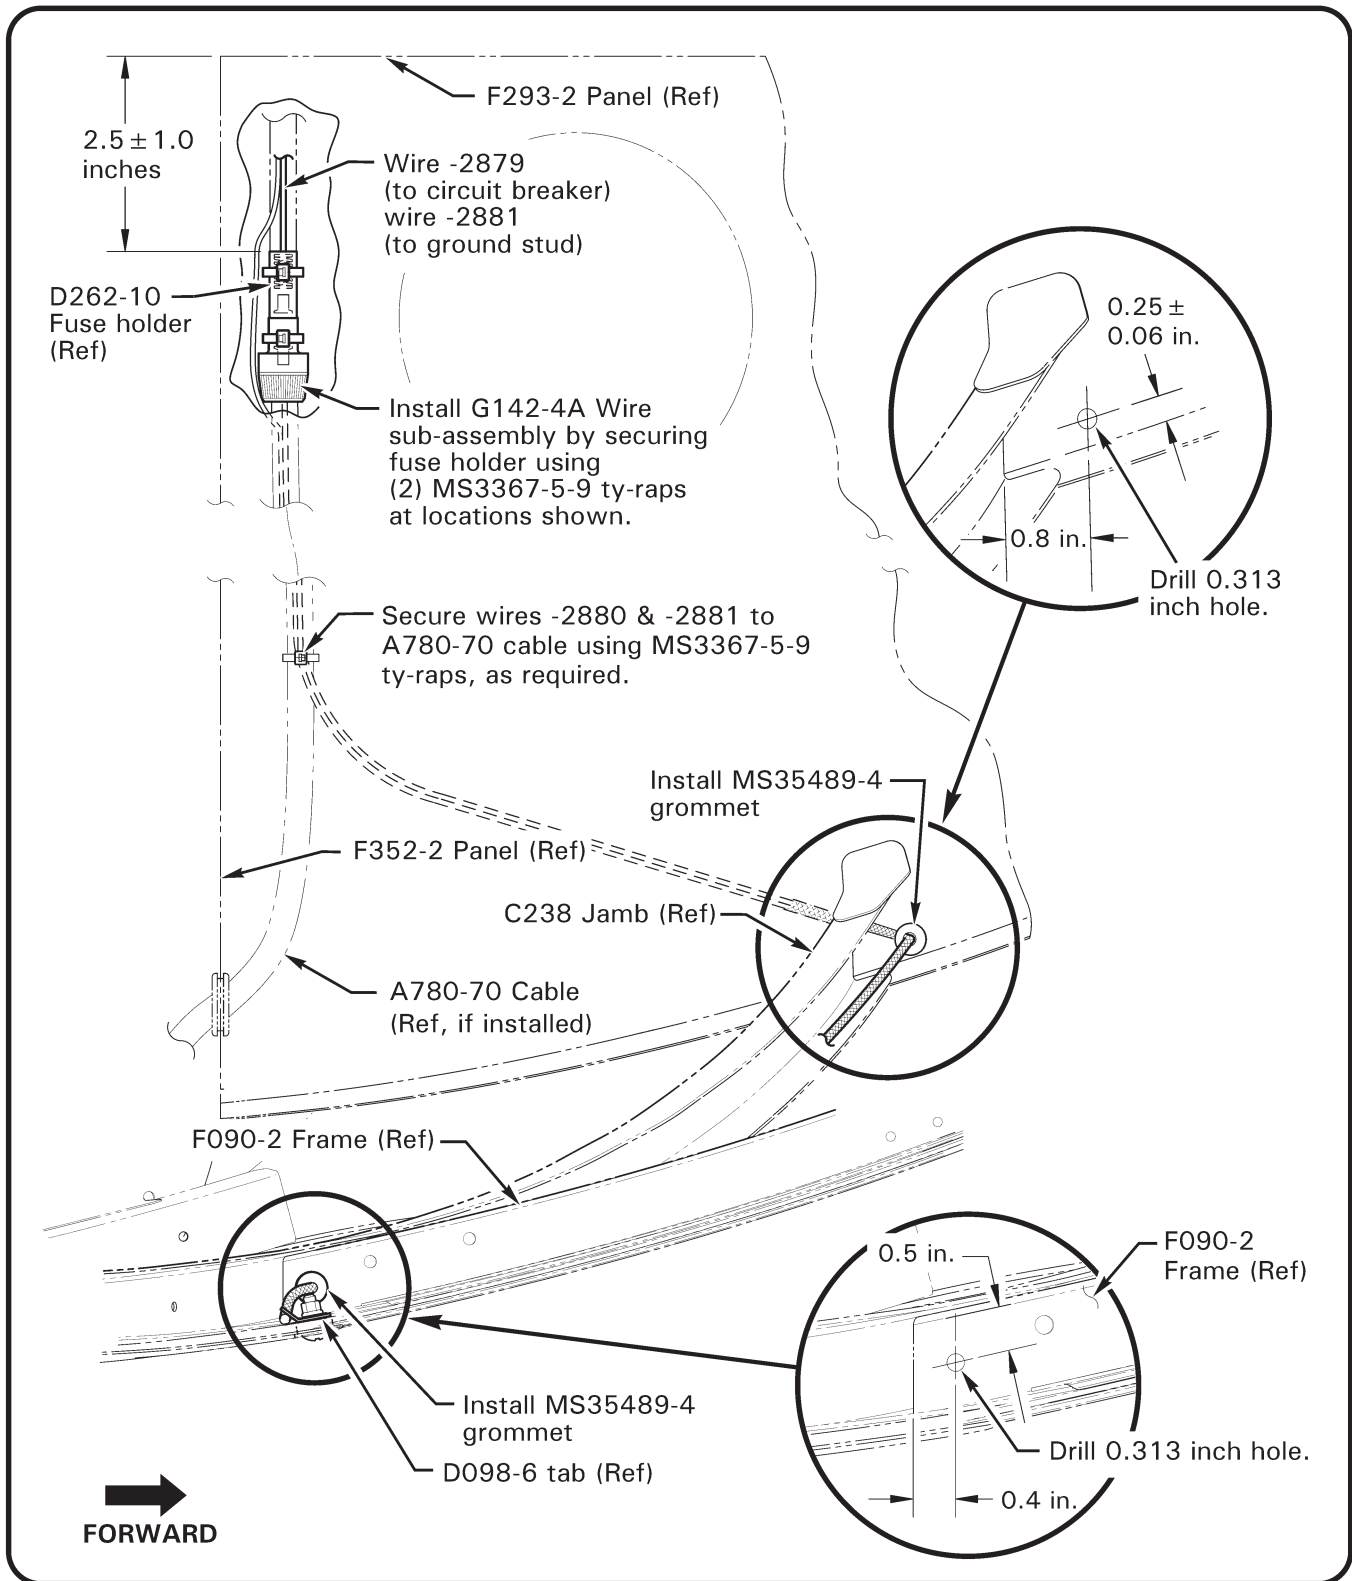

FIGURE 2
8. Refer to Figure 2. Locate and drill 0.313-inch (5/16-inch) hole thru F090-2 frame (ref. IPC Figure 52-17), and 0.313-inch hole thru floor. Deburr holes and clean up debris. Install MS35489-4 grommet in each hole.
9. Position G142-4A wire sub-assembly at location shown, ensuring wire -2879 is routed towards F293-2 panel. Secure D262-10 fuse holder to A780-70 cable using (2) MS3367-5-9 ty-raps. Cinch ty-raps until snug without overtightening and trim tips flush with heads.
12. Refer to Figure 2. Route wire -2881 past D262-10 fuse holder and adjacent wire -2880 (from fuse holder) outboard and forward, up through MS35489-4 grommet in floor. Secure wires to A780-70 cable (if installed) using MS3367-5-9 ty-raps as required. Verify wires are secure and have sufficient slack to droop slightly beneath floor.